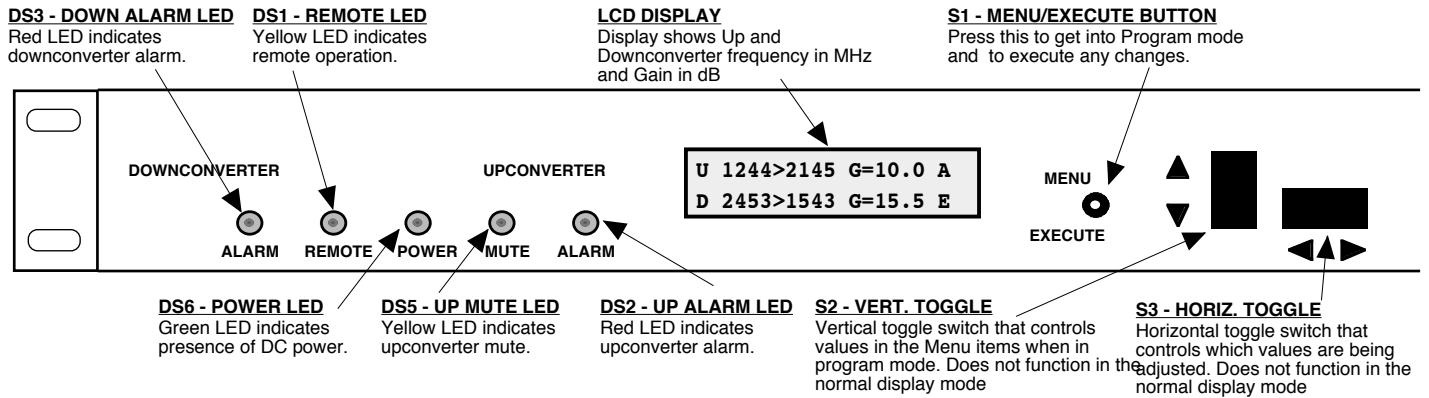

Figure 2.2 Model 3117-2525-1216# Front Panel Controls and Indicators
Figure 2.2 shows the input and output connectors on the rear panel.
- 5.) Be sure DS6 (green, DC Power) is on and DS2 (red, Alarm) is off (Figure 2.2).
- 5.) Be sure DS6 (green, DC Power) is on and DS3 (red, Alarm) is off (Figure 2.2).
2.5.1 Functions - This section describes operation of the front panel controls. There are three operator switches, the LCD display and alarm indicator LEDs. All functions for the equipment are controlled by these components. The functions are (see Figure 2.2):
Alarm indications appear on the LEDs (see figure 2.2).